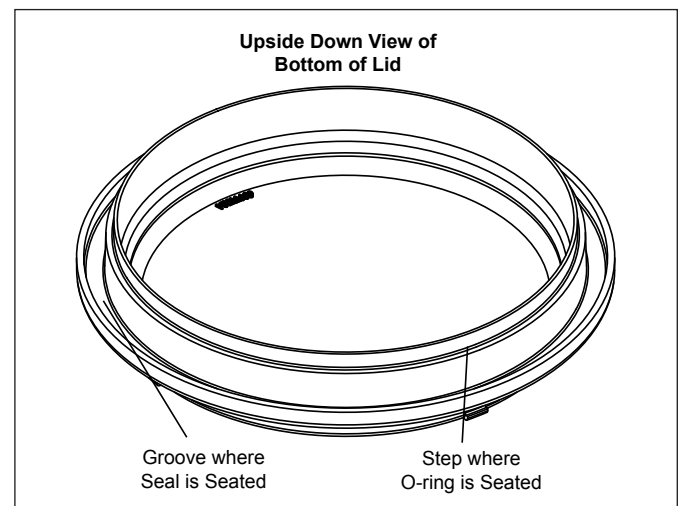

Figure 11. Placement of Blue Pressure Test O-ring
2. Place the blue o-ring on the step located $\frac{1}{4}$ " from the bottom of the lid. See Figure 11.
NOTE The blue o-ring sits approximately $\frac{1}{4}$ " away from the seal. See Figure 11.